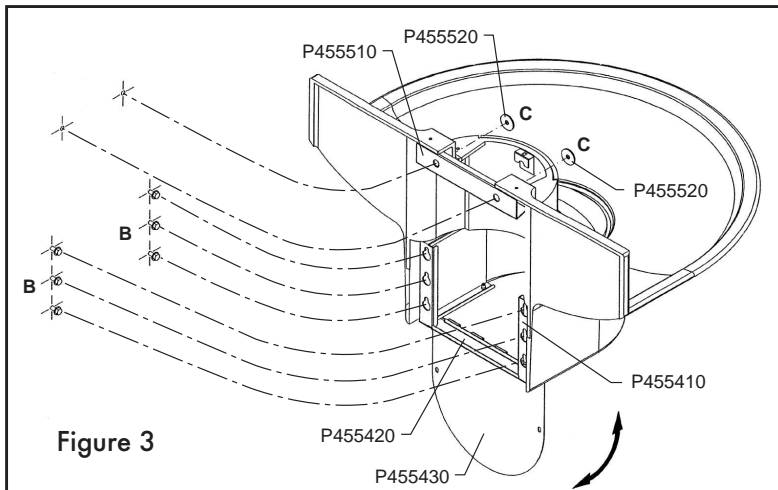

Figure 3
**STEP 3. REMOVE THE INSPECTION PANEL AT THE BOTTOM OF THE SANIFOUNT®** (see figure 3).
- STEP 12. REINSTALL DRAIN COVER (figure 3).**